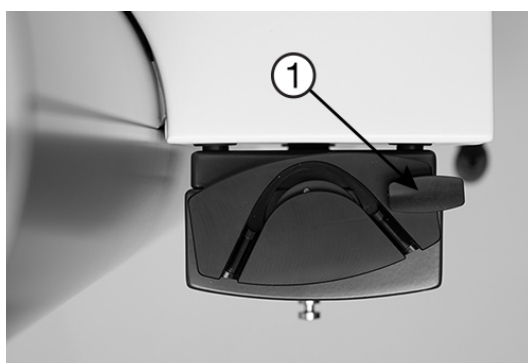

Figure 18 – Releasing the pump head
Release the pump head by turning the handle (1) counter-clockwise – see Figure 18.